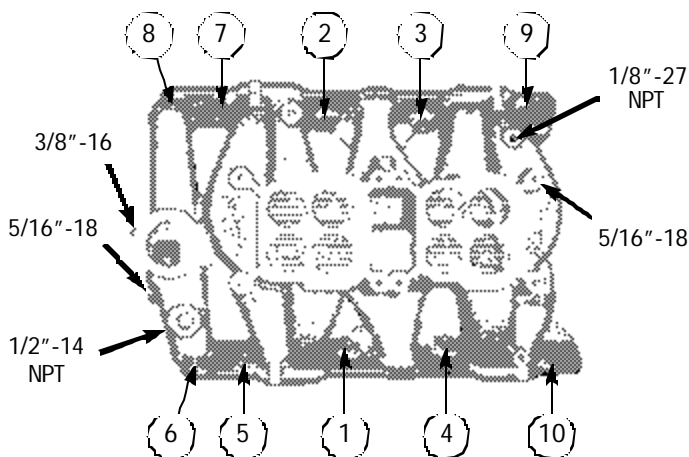

Figure 1 - Small Block Chevy Vortec Torque Sequence
- 5) Torque all of the manifold bolts in two steps by the sequence shown in Figure 1 to 25 ft/lbs.